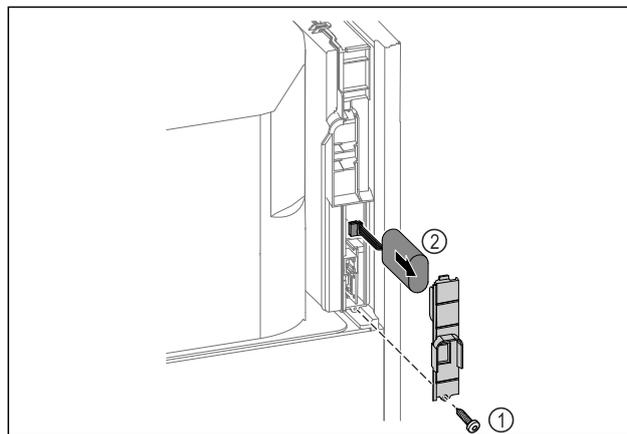

Fig. 259
- ▶ Unscrew screw and remove cover from the back of the appliance Fig. 259 (1).
- ▶ Disconnect and remove battery Fig. 259 (2).